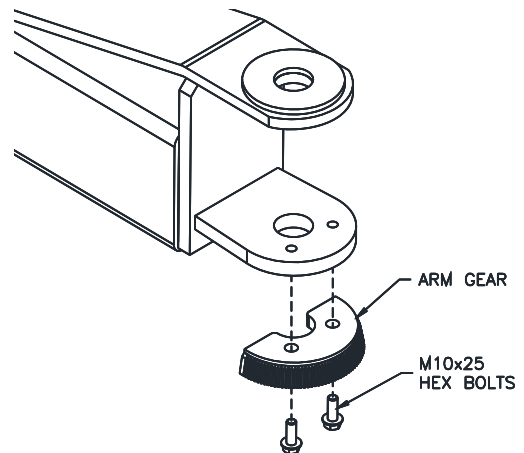

Fig. 18-Inner Arm Gear
- 40) Install inner arm gear to bottom of arm using (2) M10 x 25 Hex bolts as shown in **Fig. 18**. Do not tighten bolts at this time.